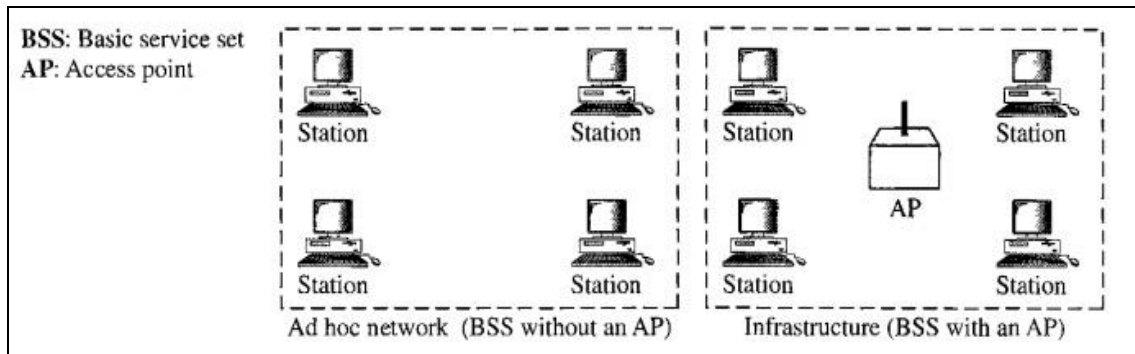

Figure 1: Basic service set (BSS)
IEEE 802.11 defines the BSS as the building block of a wireless LAN. A BSS is made of stationary or mobile wireless stations and an optional central base station, known as the **access point (AP)**. Figure 1 shows two sets in this standard. The BSS without an AP is a stand-alone network and cannot send data to other BSSs. It is called an **ad hoc network**. In this architecture, stations can form a network without the need of an AP, they can locate one another and agree to be part of a BSS. A BSS with an AP is sometimes referred to an **infrastructure network**.